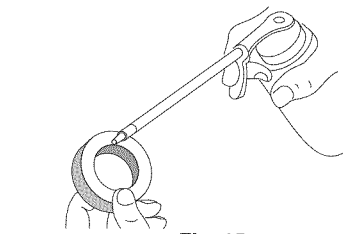

Fig. 15
- Apply enough clean SAE 30 oil to lightly coat the filter (Fig. 15).